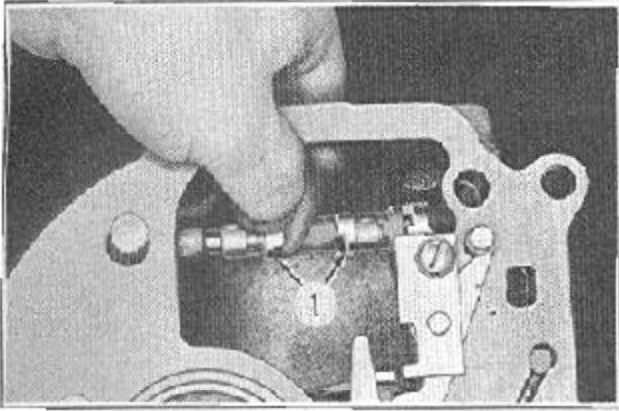

FIGURE 37
7. Remove the yoke shoes (1), Figure 37.
2. Install governor shaft yoke shoes (1), Figure 37.